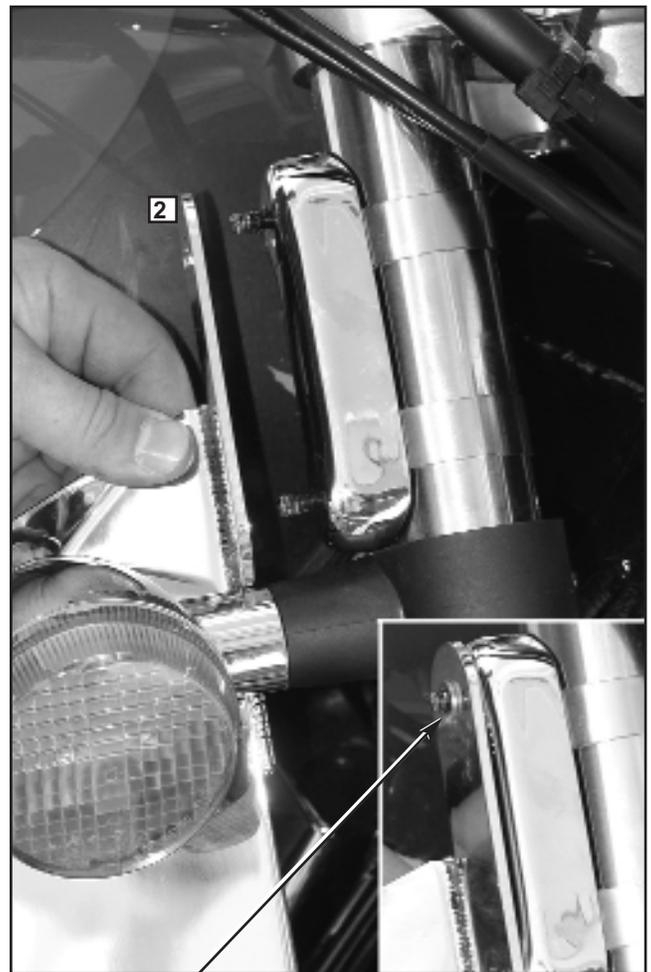

Figure 2. **Place Brass Washer on outside of Chrome Lower!**
1. Select the appropriate Chrome Lower for the left or right side of the motorcycle. Place Lower on stud of Spider. Place Brass Washer on upper stud to the outside of the Chrome Lower. **Figure 2.**